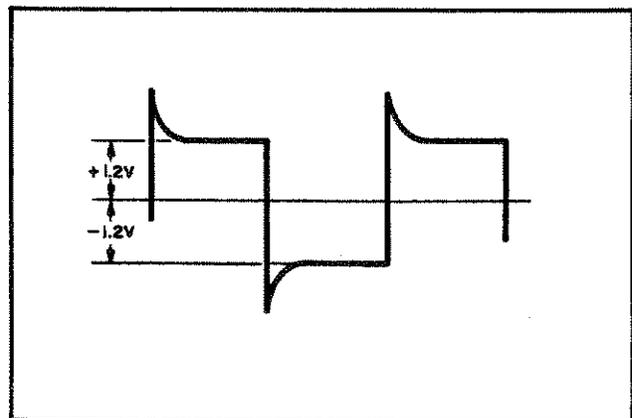

Figure 5-14. Current Sink Test Waveform
f. Turn on both instruments simultaneously and observe that waveform sampled across the 1 ohm resistor is as illustrated in Figure 5-14.
g. Repeat test with VOLTAGE control on test instrument set fully counterclockwise. Waveform should be same as Figure 5-14.